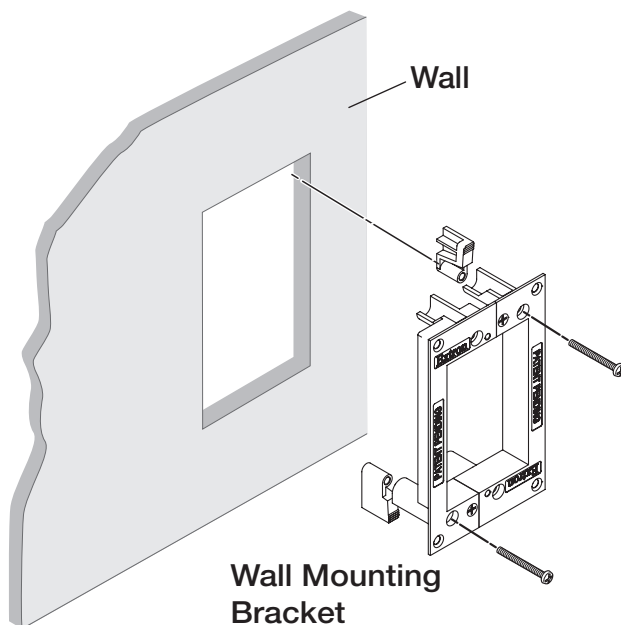

Figure 4. Installing the Mud Ring
2. Insert the mud ring into the opening and rotate and secure the locking arms with the supplied screws shown in figure 4.